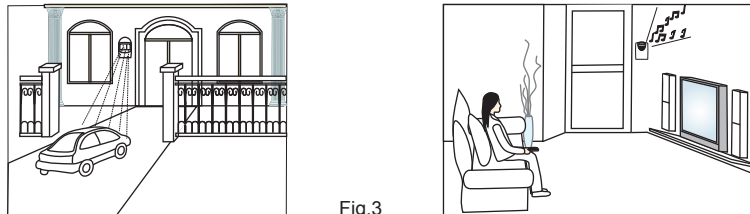

Fig.3
3. Hang the PIR sensor at the entrance of your driveway (such as on a mailbox, on a tree or on a ground stake). You may also place the PIR sensor on your garage, near the front entrance or rear door. Any movement nearby will transmit a signal to the receiver chime unit triggering it to signal the chime.(Fig.3)